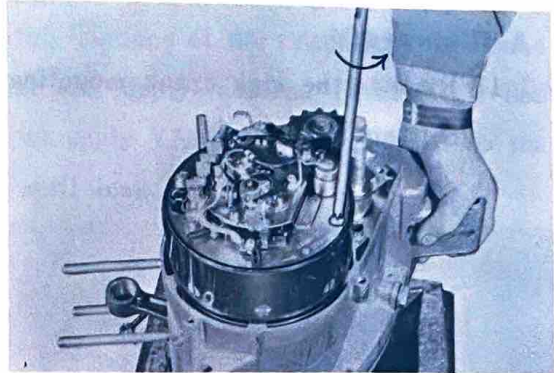

Fig. IV-7-6
- B. Remove the yoke mounting bolts, and then the yoke assembly (Fig. IV-7-6)